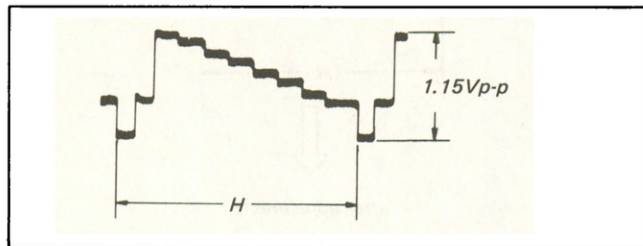

Fig. 4-34. Sync tip carrier set and FM modulator deviation adjustment
- (5) Supply the color bar signal and set up the β II RECORD mode.
- (6) Play back the recorded segment.
- (7) Connect the oscilloscope to TP13.
- (8) Adjust the deviation with RV14 so that the waveform is 1.5 Vp-p. (See Fig. 4-34.)